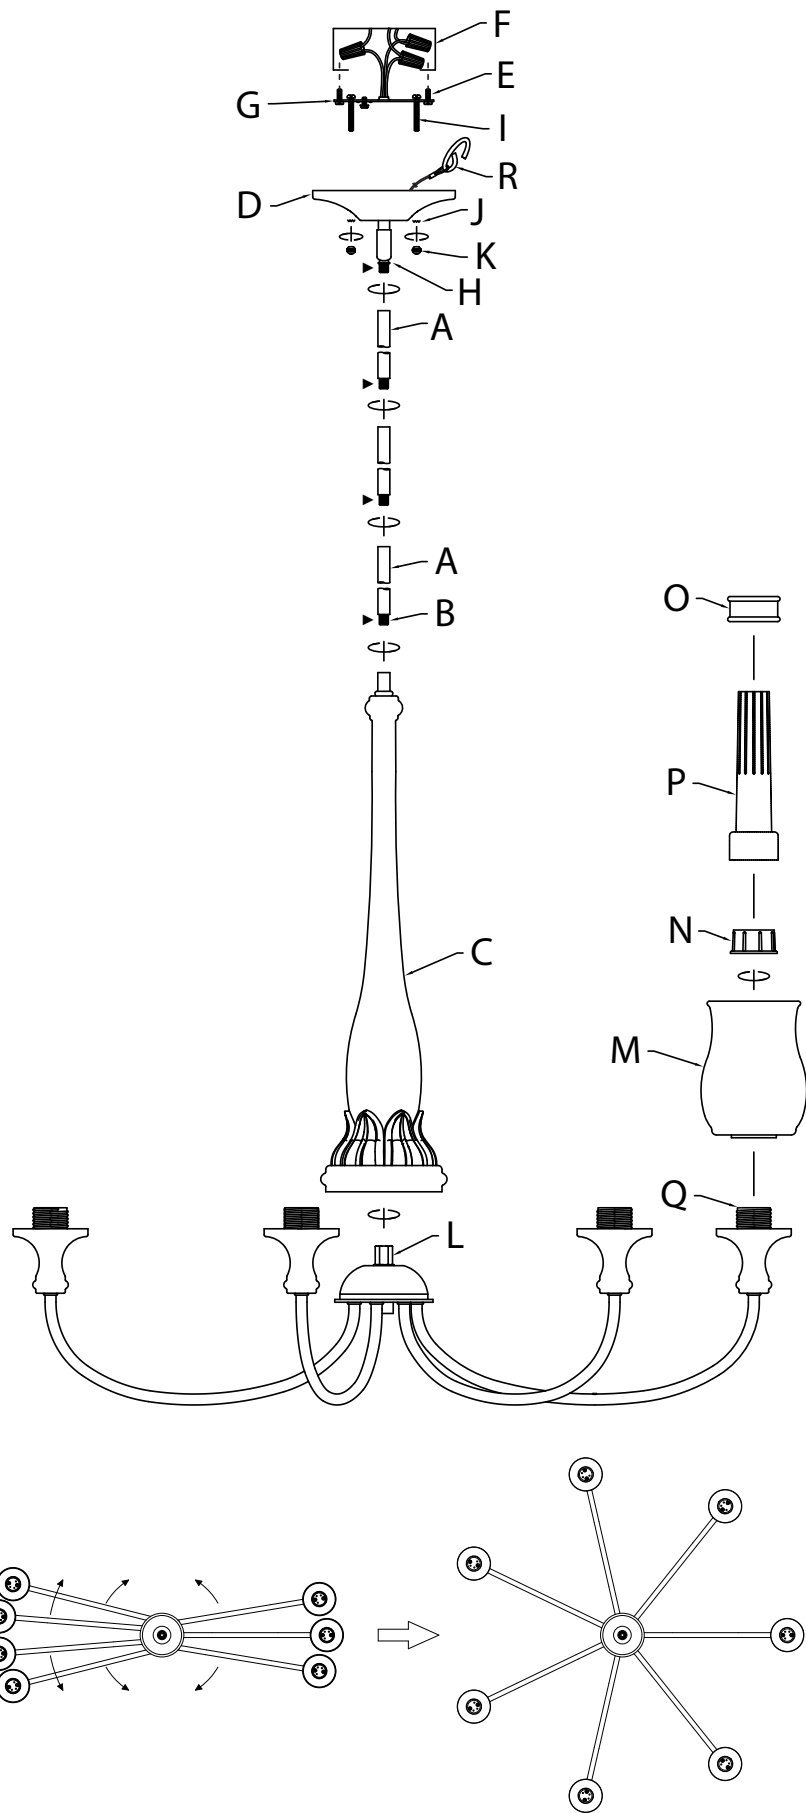

Fig. 1
- Rotate arms into position as shown (Fig. 1).